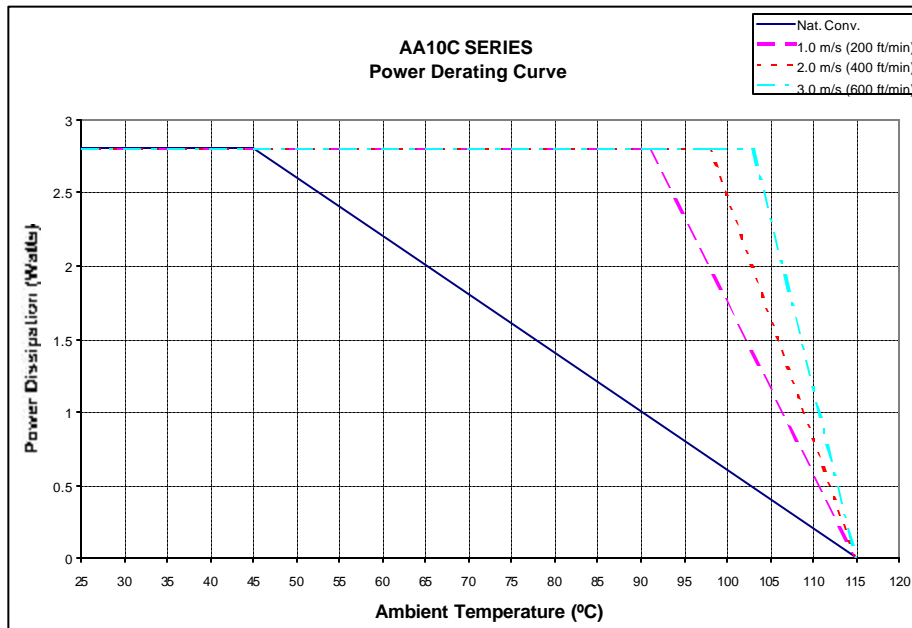

Figure 16. Forced Convection Power Derating
Increasing airflow over the converter enhances the heat transfer via convection. Figure 16 shows the maximum power that can be dissipated by the converter without exceeding the maximum case temperature versus local ambient temperature (T_A) for natural convection through 3.0 m/s (600 ft/min).
Systems in which these converters are used generate airflow rates of 0.25 m/s (50 ft/min) due to other heat dissipating components in the system. Therefore, the natural convection condition represents airflow rates of approximately 0.25 m/s (50 ft/min). Use of Figure 16 is shown in the following example.
- Determine airflow (Figure 16): $v = 1.0\text{ m/s}$ (200 ft/min)